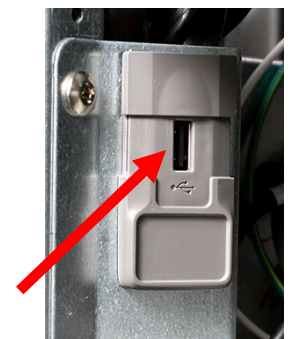

Figure 2
1. Locate the USB with the **FRYER SOFTWARE FILES** and follow the enclosed instructions to update the fryer software using the USB port on the **FAR-LEFT** side of the fryer, just inside the left fryer door (see Figure 2). The software versions after update should be: